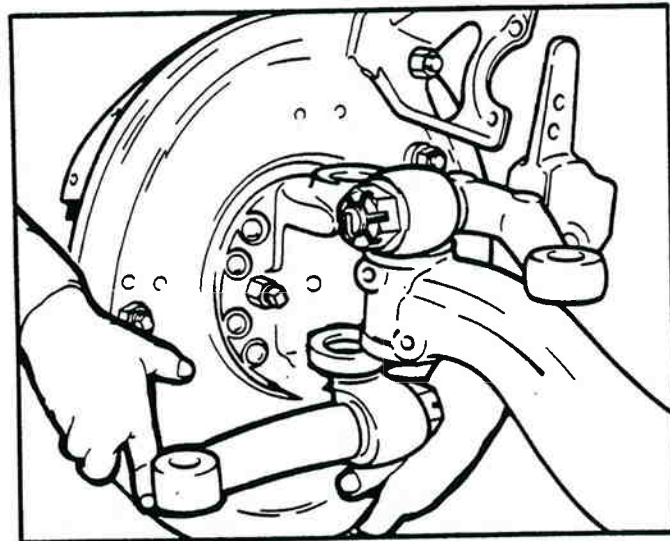

Figure 1-9. Removing Steering Knuckle From Axle.
9. If servicing the straight pin type knuckle, lift off the knuckle assembly, thrust bearing and shims. If servicing the tapered pin style knuckle, remove the knuckle pin sleeve, and lift off steering knuckle, thrust bearing, spacing washers, and backplate assembly. Refer to figure 1-9.